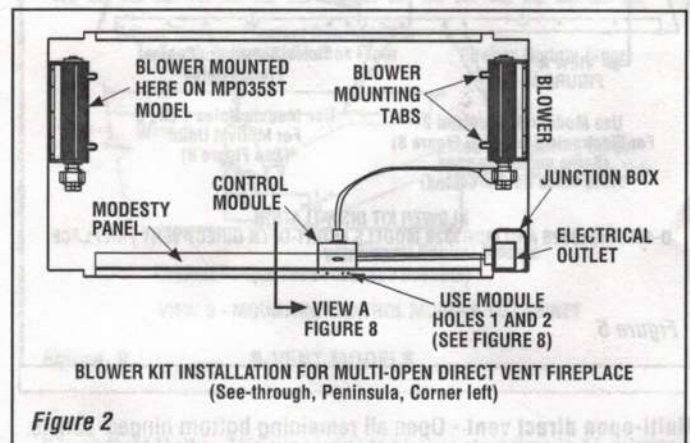
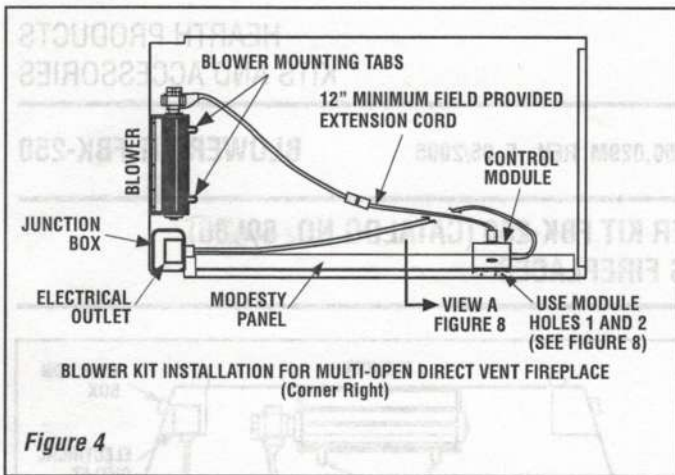

Figure 2
Figure 4
**Multi-open direct vent** - Open all remaining bottom hinged-panels. Slide the blower assembly through the closest opening to the flue side of the cabinet base. Position the blower assembly so that the tabs (located on the cabinet base) are seated in the notches of the blower bracket. Bend the tabs over to secure the blower assembly. *See Figure 2 for see-through, peninsula or corner-left models; Figure 4 for corner right models.*
- b - see **Figure 2** for EDST-2, EDPF-2, and EDCL-2 multi-open units;
- c - see **Figure 4** for EDCR-2 Multi-open units;